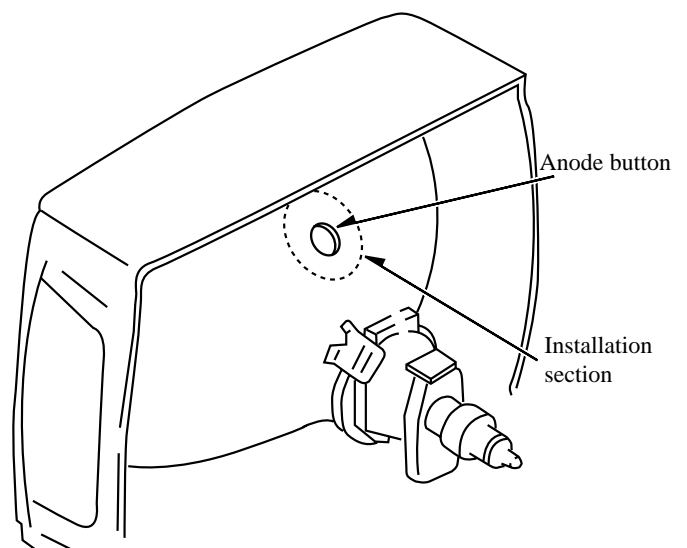

Fig. 3-2
- (1) Use a clean cloth moistened slightly with alcohol to clean the installation section. (See Fig. 3-2)
- (2) Coat the anode cap installation circumference with an appropriate amount of the specified silicone grease (KS-650N).